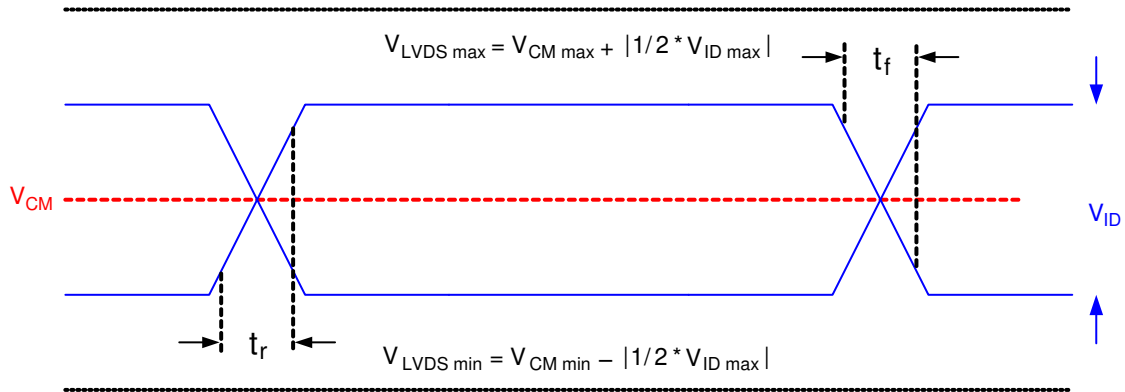

図 5-5. LVDS Waveform Requirements
- (8) Refer to 図 5-5.
- (9) Simultaneous exposure of the DMD to the maximum セクション 5.4 for temperature and UV illumination reduces device lifetime.